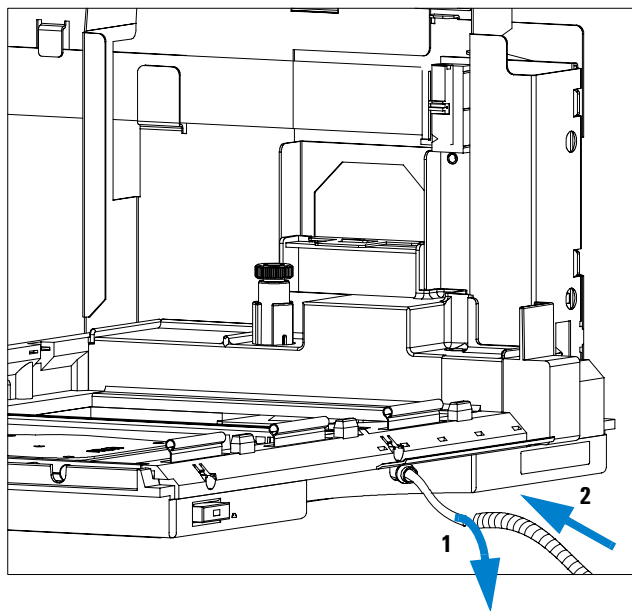

Figure 5 Installing the Corrugated Waste Tubing in the Plastic Port
- 5 Install the corrugated waste tube in the plastic port at the front bottom center of the instrument. Slide the waste tubing coming from the internal tray (if present) through the plastic port and the corrugated waste tube (see Figure 5 on page 26). Route the corrugated waste tubing into a waste container.
plastic port and the corrugated waste tube (see Figure 5 on page 26). Route the corrugated waste tubing into a waste container.